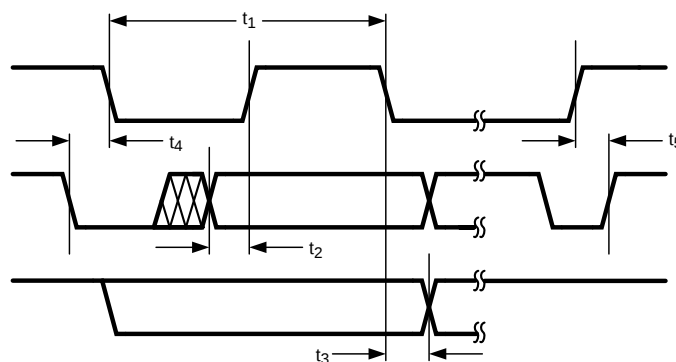

Figure 2. I²C Timing
I²C Compatible Timing Specifications (SCL, SDA, VIO, see Figure 2) ^{(5) (4)}